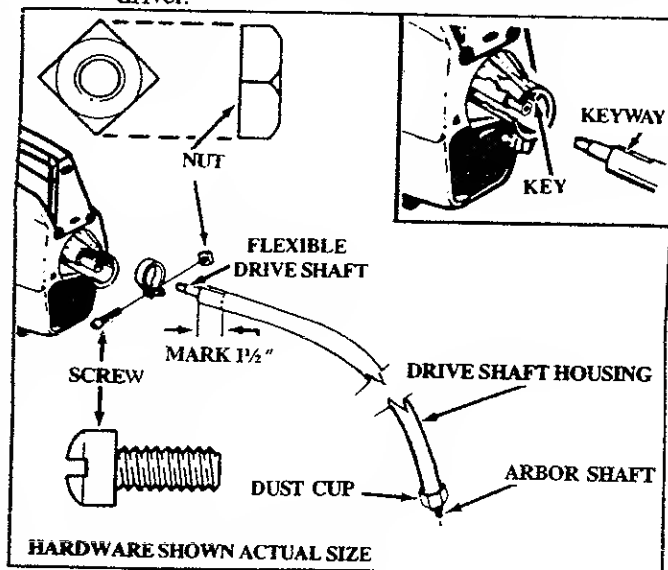

Figure 1
1. DRIVE SHAFT HOUSING — Figure 1
- Mark a line 1-1/2 inches from the straight end of the Drive Shaft Housing. Figure 1.
- Place the Clamp from the loose parts bag on the Engine Shroud as shown in Figure 1.
- Align the keyway in the Drive Shaft Housing with the key inside the Engine Shroud opening. Figure 1.
- NOTE:** The position of the Drive Shaft Housing must be as shown in Figures 1 and 5.